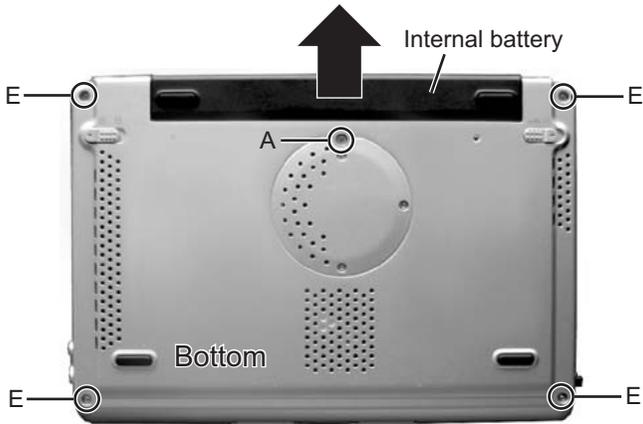

Fig.1
1.1.1 Removing the internal battery (See Figure 1)
1.1.3 Removing the top case and LCD panel assembly (See Figure 1 and Figure 5 ~ Figure 8)
(2) Remove the four screws **B** attaching the top case.
(3) Remove one screw **C** (short) and one screw **D** (long) attaching the shield plate.
(4) Reverse the main body, and remove the four screws **E** on the bottom of the main body. (See Figure 1)
(5) Disconnect the connector wire from the connector CN2 on the mother board. Similarly, remove the connector wires from the connectors CN3, CN5, and CN7.
(6) Remove one latch **c** on the rear side of the main body, and release the two joints **d** while moving the top case in the rear direction.